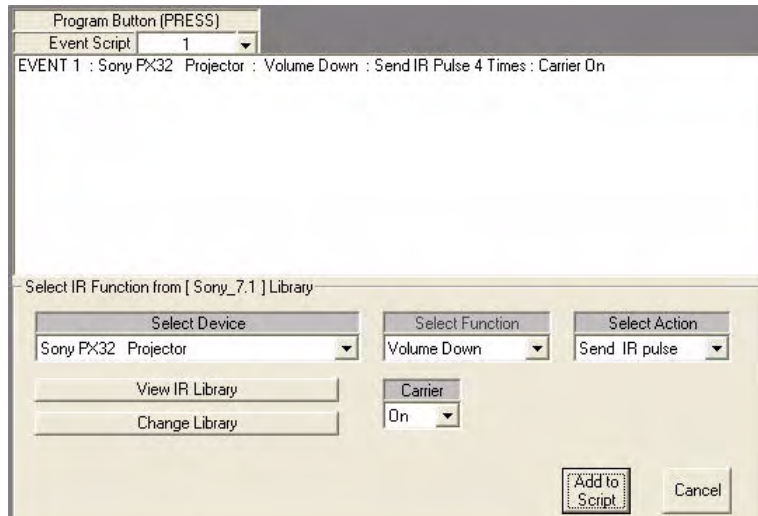

FIG. 75 Button 1 - Add Sony PX32 Projector "Volume Down" Command to Script
7. Choose the "Volume Down" command (in the *Select Function* drop-down menu) and click **Add To Script** to add it to the Event Script (FIG. 75):